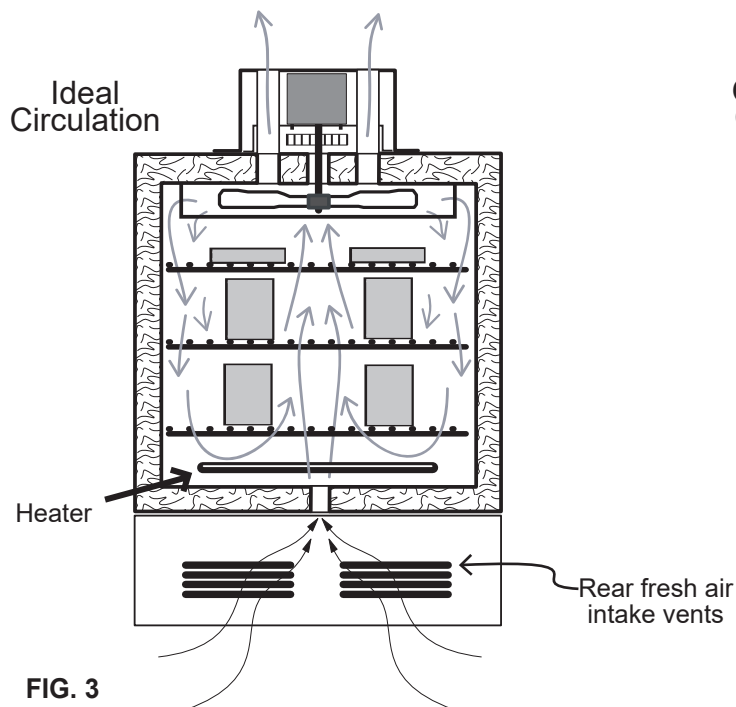

FIG. 3
- Load the oven so that heated air circulation within the chamber is not impaired (FIG. 3).